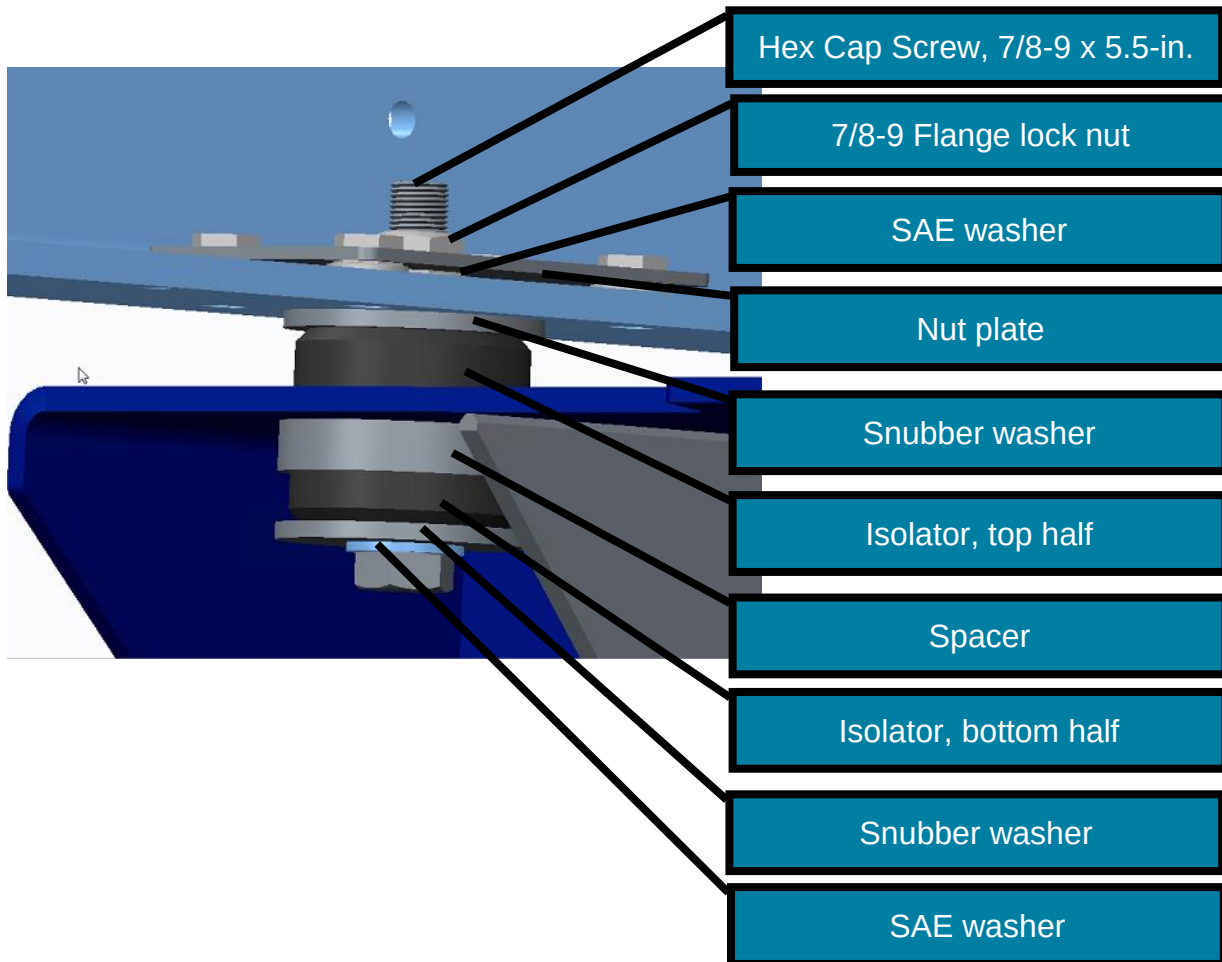

Figure 13. The REAR isolator mounting parts must be arranged as shown.
- a. The isolator stack component sequence is critical, see Figures 13, 14 and 15.